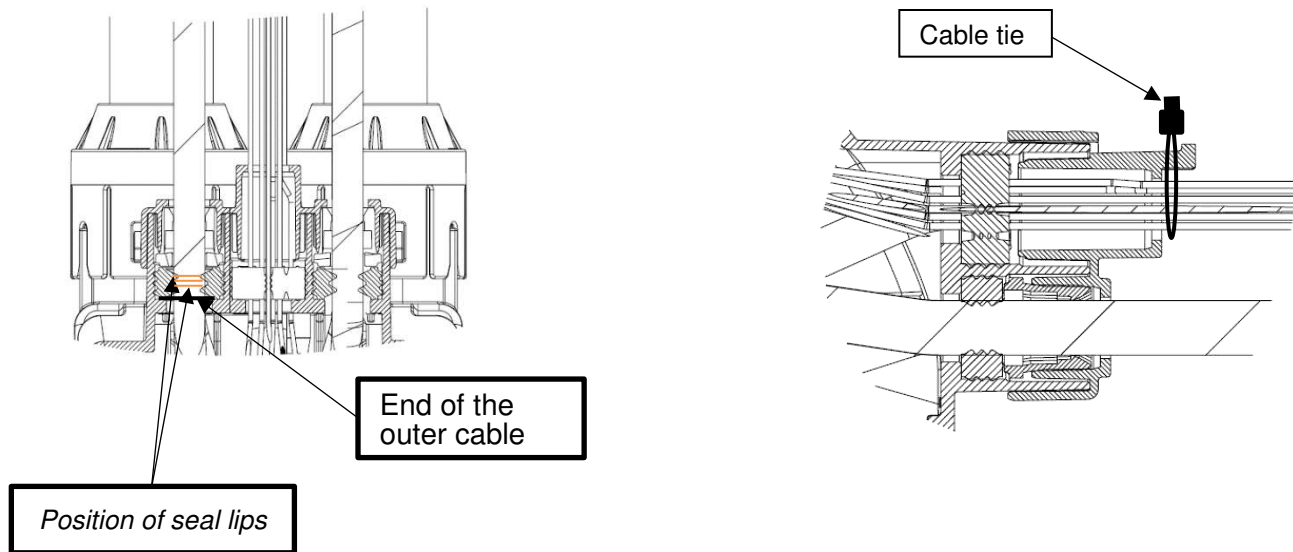

Figure 36a – AC seal lips
**ATTENTION:** Ensure that the AC cable is well positioned in the SEAL, that all seal lips are safely placed on the outer isolation of the cables. (Figure 36a)
Push the AC, PE, and SIGNAL COVER over it and snap it on the CABLE EXIT COVER LARGER AC 2390858-3. Ensure that both hooks are correctly engaged (double audible click), see Figure 36a.
Place a CABLE TIE, (Black, 2.5 mm wide, 1mm thick, 100mm long, min. tensile strength: 80N) around the single wire signal cables and the bridge at the AC Large Exit Back Cover and pull tight, see Figure 36a.